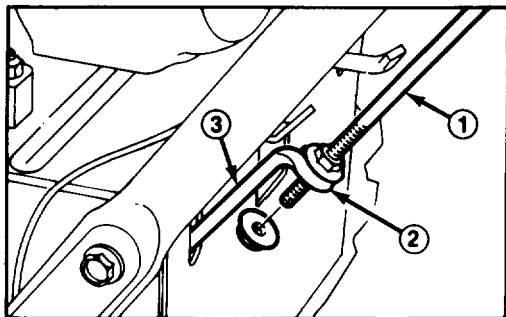

Figure 3
2. Insert traction rod through loop in lower traction rod (Fig. 3).
3. Thread a flange nut (flange side up) onto bottom of traction control rod to loop in lower traction rod (Fig. 3).
6. Adjust flange nuts on traction rod (Fig. 3) until dimension is attained.